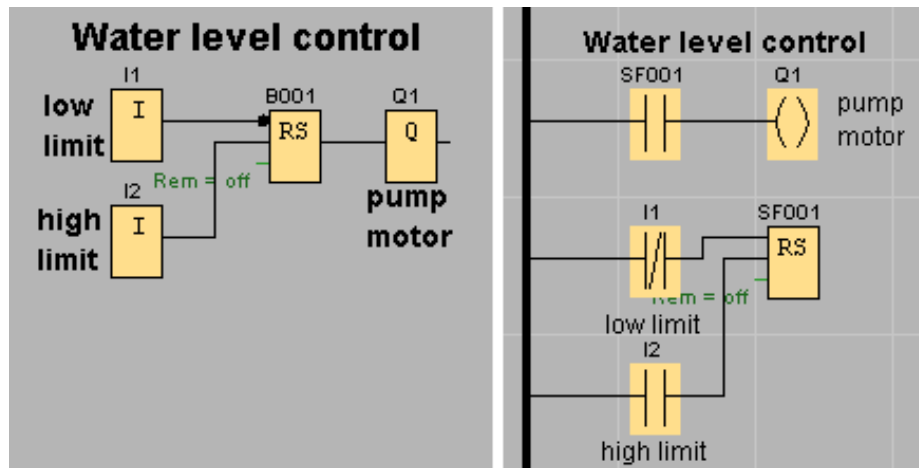

Fig. 5.3 Control circuit for system of Fig. 5.2
- A:** Enter the [FBD] circuit of Fig. 5.3 and verify its performance by simulation.